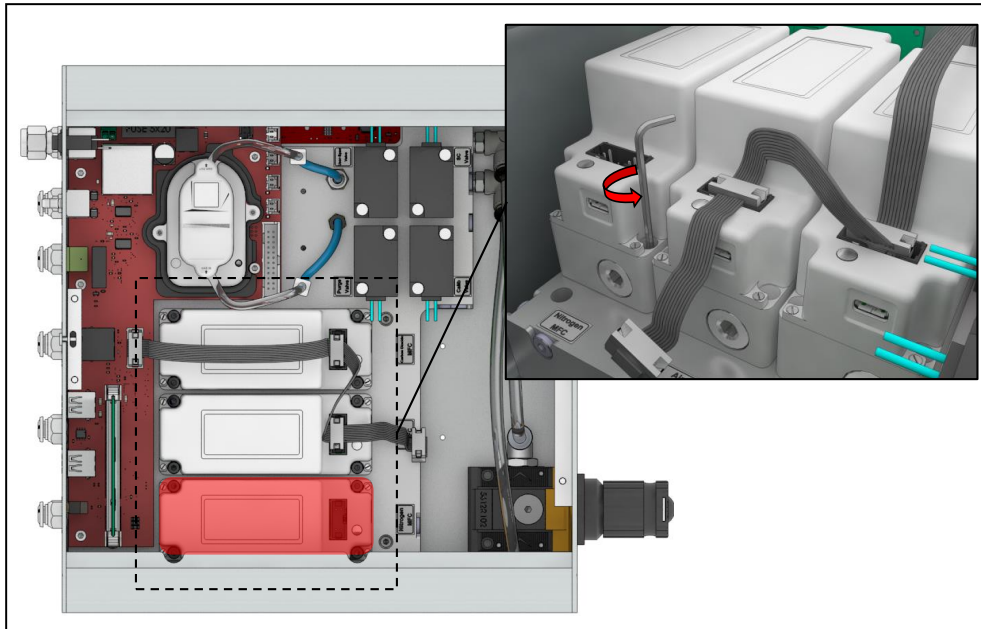

Figure 131. How to loosen the screws on the Mass Flow Controller.
4. Loosen the screws counterclockwise by using a hexagonal key (2.5 mm) as shown in Figure 131